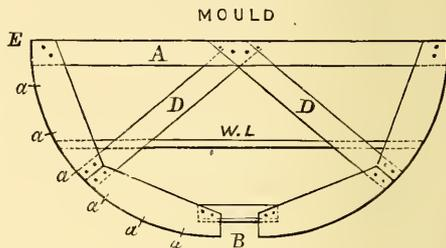
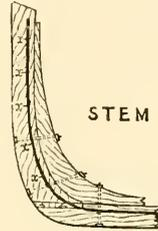

FIG. 232.
Fig. 233.
**Boat Building.**—In the first place lay off the sections, keel and sternpost, and stem. If the keel has a straight edge, top and bottom, it will not require to be laid off. When the sections are laid off, proceed to make moulds to fit the curves; these moulds will be made of  $\frac{1}{2}$  inch,  $\frac{3}{8}$  inch, or 1 inch deal or elm, according to the size of the boat; any odd pieces of stuff will do, and there can be as many joints in a mould as may be found convenient: (See Fig. 232.) The cross piece A should be stout enough to keep the mould rigid. The diagonal braces D need not be used if the mould can be made rigid without them; in such case the joints in the mould should be secured by a doubling piece. The bar W.L.
The moulds must be next put into their proper places. Care must be taken that they are "square" to the keel (*i.e.*, cross it at right-angles) that they are plumb (perpendicular) to the load-water-line, and that the bar W L (Fig. 232) is at the level of the line stretched between stem and stern-post to represent the load-water-line. The moulds must be kept in position by wood stays and ribbands formed by battens of fir. These ribbands can be let in flush with the outside edges of the moulds. They need not then be removed until the whole of the planking is complete and the timbers steamed in. This will be a great advantage for carvel build.
If the boat is to have a counter, the rudder trunk will be constructed as it is in yachts. In order to allow plenty of room in the trunk, pieces of wood an inch or so thick are fitted to the sides of the sternpost before the sides of the trunk are fixed on. The trunk in a fore-and-aft direction is also made about twice as deep as the diameter of the rudder post. Plank will vary according to the size of the boat and curve of the bilge, and in the widest part may be from 4 to 5 inches. Measure the half-girth of the midship mould (Fig. 232) from B to E by passing a tape or line round the outside curved edge. Divide this length into a
number of equal intervals to represent the breadth of the strakes as *a a*, &c. (see Fig. 232). Allowance must be made for about  $\frac{3}{4}$  in. overlap of each plank which forms the lands. Count the number of intervals or strakes of plank, and set off the same number in equal intervals on the rabbet of the stem (see *x x*, Fig. 233) and on the transom. These intervals will be much closer together than on the
The garboard strake will be first fitted. This will be a strake quite straight on its upper edge before it is bent round the moulds from stem to stern post. The under edge will be cut to fit the rabbet in keel, and stem, and dead wood aft. When this plank has been fitted into the garboard and nailed at intervals of two or three inches to the keel, the next plank must be fitted. Take the board (out of which the plank is to be sawn) and hold it along as closely as possible outside the upper edge of the garboard strake. Mark a line along it to correspond with the top edge of the garboard. Remove the board and it will be found that the line is more or less curved. Saw down this curved line. Then fit the board to the garboard again, making it overlap (by its curved edge) the garboard by about  $\frac{3}{4}$  of an inch. Now mark by spots on the upper edge of the board the next interval, representing the breadth of the plank (see *a a*, Fig. 232) for each mould, including stem and dead wood or transom aft. Remove the board and run a line in through
the spots representing the intersections *a a* on with the moulds; this will show the shape, or the curve of the upper edge, and the curve of the lower edge of the next strake. The plank may possibly be shaped like the sketch (Fig. 233), but the greatest curvature will be found as the bilge is reached. It is not absolutely necessary that the plank should accord with the spots *a a* at every mould, as the intervals are more as a guide to get the curve of the strake than to show the shape of the curve arbitrarily.